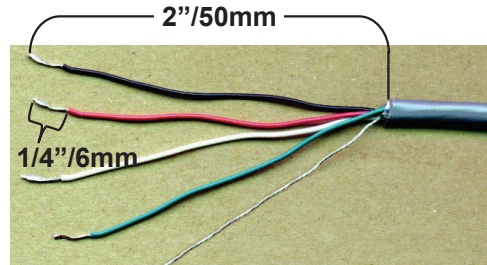

Figure No. 6
3. Remove 2" (50mm) of the outer insulation jacket, then remove 1/4" (6mm) of insulation from each of the 4 wires and shield (without sense leads) or 6 wires and shield (with sense leads). Refer to Figure No. 6.
3. Remove 2" (50mm) of the outer insulation jacket then remove 1/4" (6mm) of insulation from each of the wires (refer to Figure No. 6).